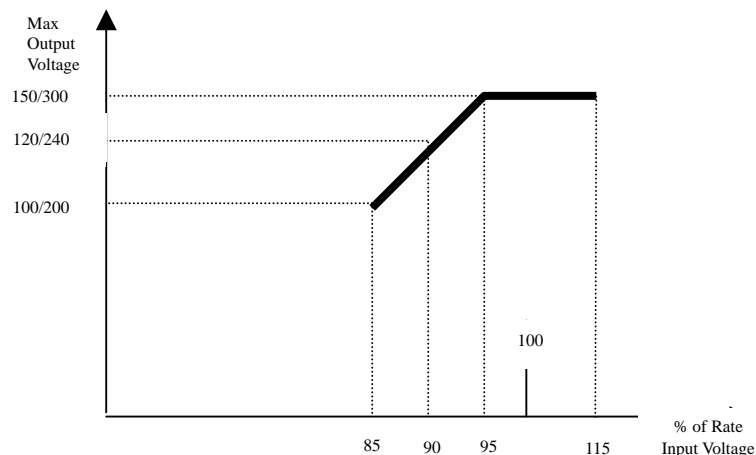

Figure 1.
4. Please make sure the input tolerance of this APS-9301/9501/9102 is within $\pm 15\%$ of rated voltage (see figure 1)